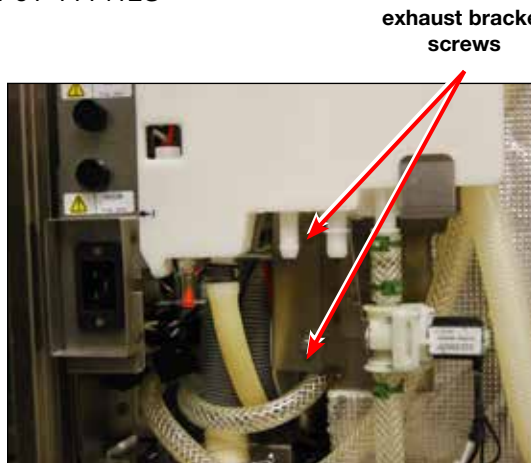

Figure 30c
3. Remove the exhaust assembly bracket (2 nuts at back of unit). (Figure 30c)